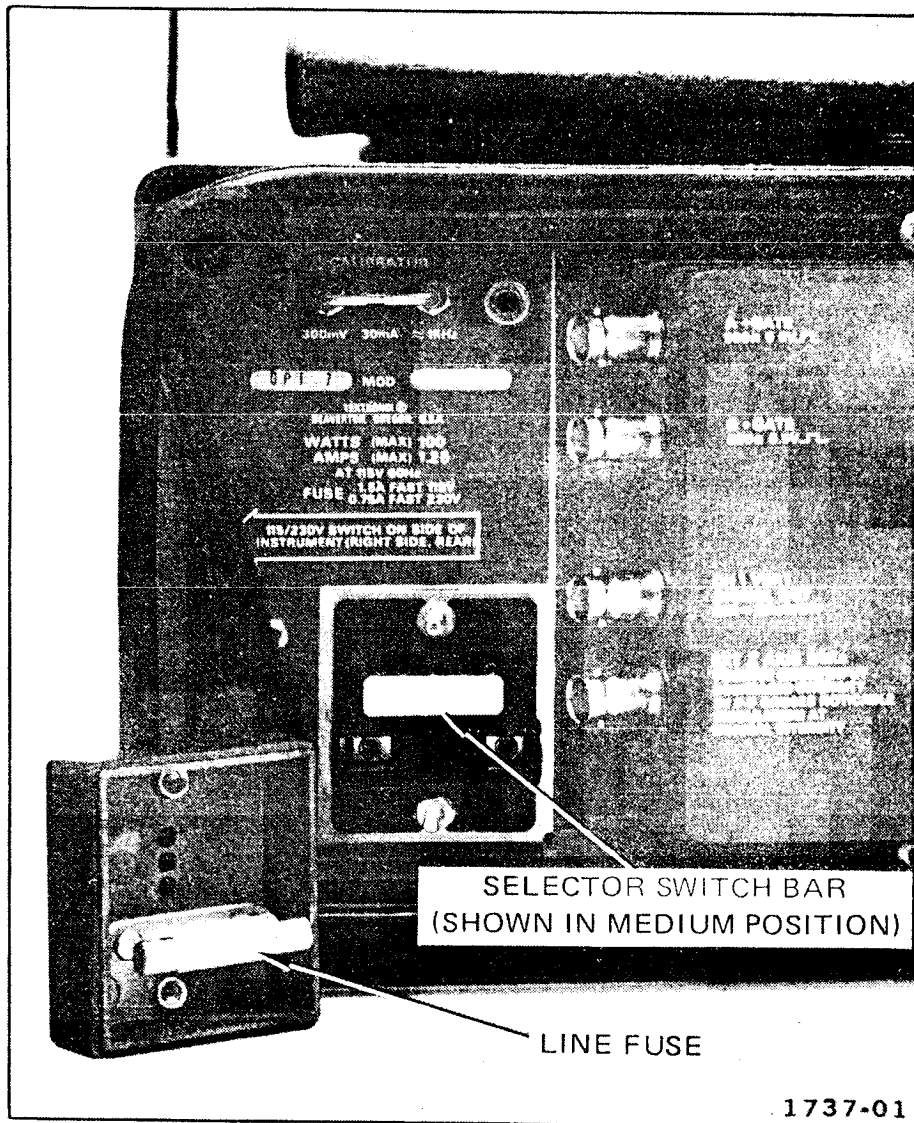

Fig. 1. Regulating range selector & line fuse.
3. Pull out the range selector switch bar (see Fig. 1). Select a range from Table 1 which is centered about the average line voltage. Slide the bar to the desired position and plug it in. Push the cover on and tighten the screws.